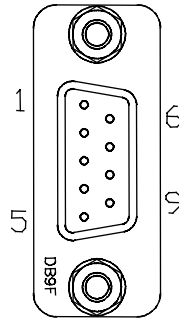

Figure 2-2. J1 SYSTEM ALARM Connector
- Connect alarms monitor cable to J1 SYSTEM ALARM connector on rear of subrack (refer to figure 2-2 and table 2-2 for J1 SYSTEM ALARM connector definition).
The J1 SYSTEM ALARM connector on the rear of the MCR20XX Series (NTL107AC) subrack is a 9-pin female D-sub connector that permits monitoring various alarm signals for each amplifier in the subrack. Refer to figure 2-2 and table 2-2 for connector definition.